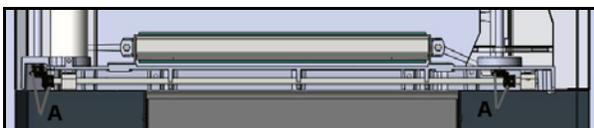

Figure 24
4. If the height adjustment mechanism still feels rough, check the miter gear alignment on the underside of the base. The miter gears (A, Figure 24) can be adjusted on their shafts by loosening the set screws on the gears. Check and adjust so that the gear mesh is not too tight or too loose, and that the gear teeth align with the opposing gear.